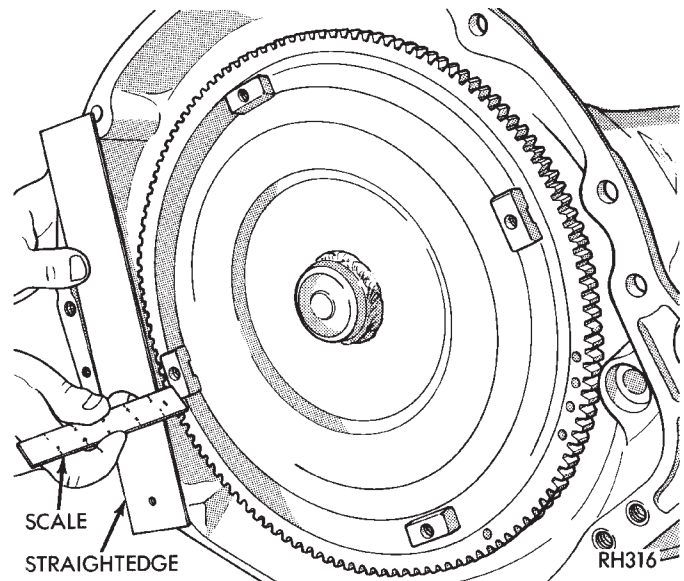

Fig. 23 Checking Torque Converter Seating—Typical GEARSHIFT CABLE
- (3) Align torque converter to oil pump seal opening.
- (4) Insert torque converter hub into oil pump.
- (5) While pushing torque converter inward, rotate converter until converter is fully seated in the oil pump gears.
- (6) Check converter seating with a scale and straightedge (Fig. 23). Surface of converter lugs should be 1/2 in. to rear of straightedge when converter is fully seated.
- (7) If necessary, temporarily secure converter with C-clamp attached to the converter housing.
- (8) Install the transmission in the vehicle.
- (9) Fill the transmission with the recommended fluid.